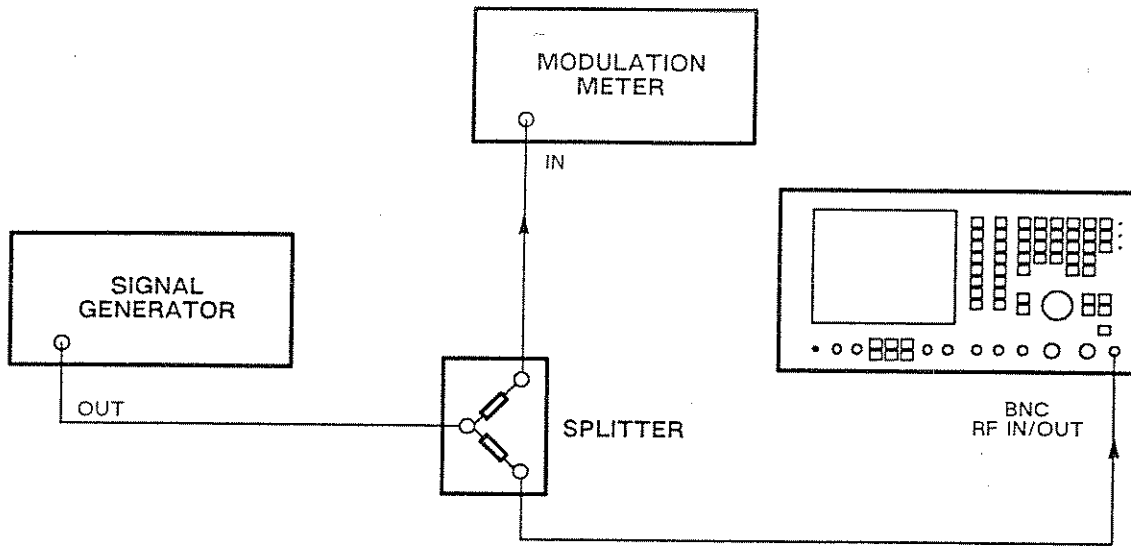

Fig. 6-2 Test equipment connections for oscilloscope demodulated FM and demodulated AM
- (1) Connect the signal generator to the input of the power splitter. Connect the outputs of the power splitter to the RF IN/OUT BNC socket and to the modulation meter. See Fig. 6-2.
- (2) On the 2955B, set the MODE to TRANSMITTER TEST, MOD to FM, SCOPE/BAR to SCOPE, FILTER to 0.3-3.4 kHz BAND PASS and RF IN/OUT socket to BNC.
- (2) On the 2955B, set the MODE to TRANSMITTER TEST, MOD to AM, SCOPE/BAR to SCOPE, FILTER to 0.3-3.4 kHz BAND PASS and RF IN/OUT socket to BNC.
- (3) Set the signal generator carrier frequency to 100 MHz, level to 7 dBm, AM and 1 kHz internal modulating frequency.
- (4) Set the modulation meter to AM, p-p/2, in a 0.3 to 3.4 kHz bandwidth.
- (5) On the 2955B, set the VERT scale range to 20%/div.
- (6) Adjust the signal generator depth until the waveform is shown on the oscilloscope as 80%.
- (7) On the modulation meter, check that the reading is 72 to 88%.
- (8) Repeat (5) to (7) for the other VERT scale ranges and modulation depths as follows:--